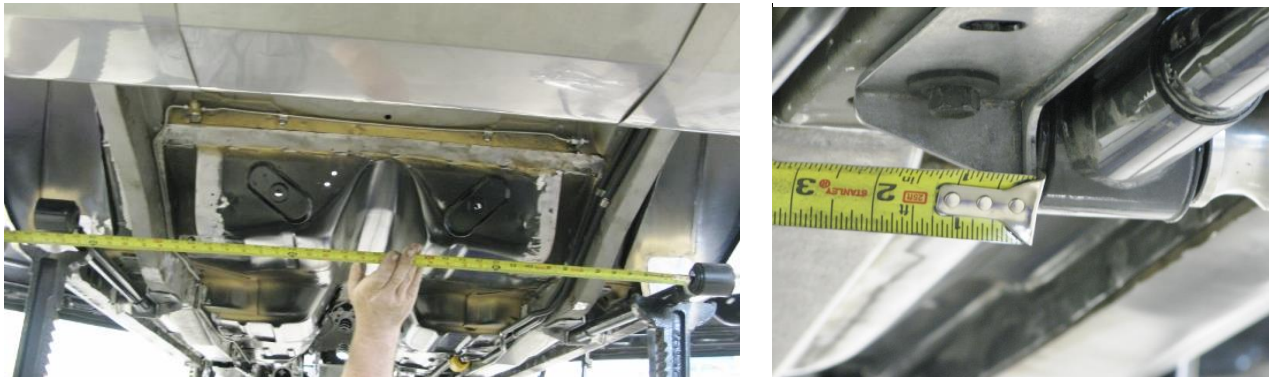

Figure 2 - Width Measurement
7. With both DSE pocket assemblies installed into the vehicle, square the pockets to the vehicle. Hold the opposite ends of the Swivel Links up with jack stands. Measure across the width of the vehicle at the front and the back of the links to show that they are parallel (Figure 2).